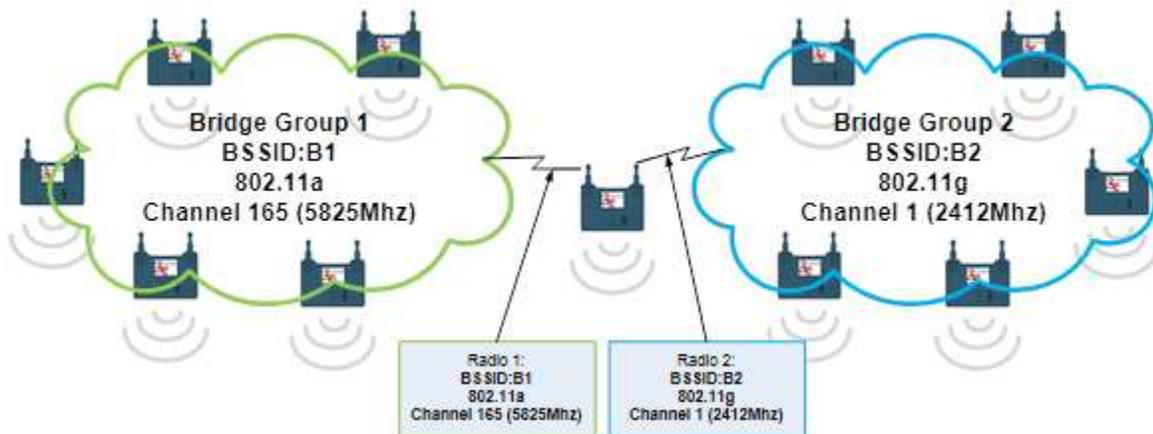

Figure 11: Dual Bridge Configuration
- Dual bridge configuration to connect networks with dissimilar radio, frequency, channel, and/or SSID (see Figure 11 below).
In 3e-525N products, there are two radios, which can work as bridges at different frequency bands. As shown in Figure 11, the two groups of bridges can work at two different frequency bands. The bridge in the middle uses two radios and works on different frequency bands to connect the two groups together. Since the two groups are using different frequency bands, there will be less congestion in the bridge backhaul traffic when compared to using single frequency bands for all eleven bridges.